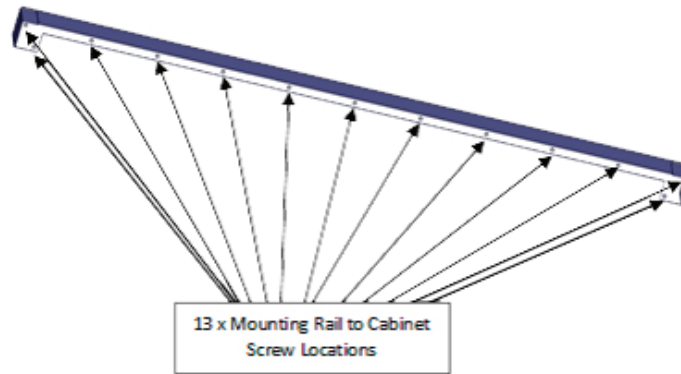

Figure 42a – Mounting Rail
2. With the 1/4" bit installed in the power driver insert the 13 screws through the mounting rail and into the cabinet per Figure 42a.